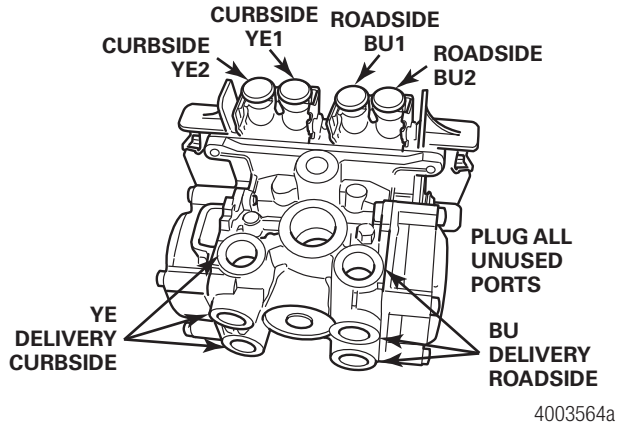

Figure 26
- If the ECU/dual modulator valve assembly is mounted with the sensors facing the FRONT of the trailer, the air lines for the three delivery ports located under the YE sensor connectors must be routed to CURBSIDE; the air lines for the three delivery ports on the opposite side of the valve must be routed to roadside. Figure 26.